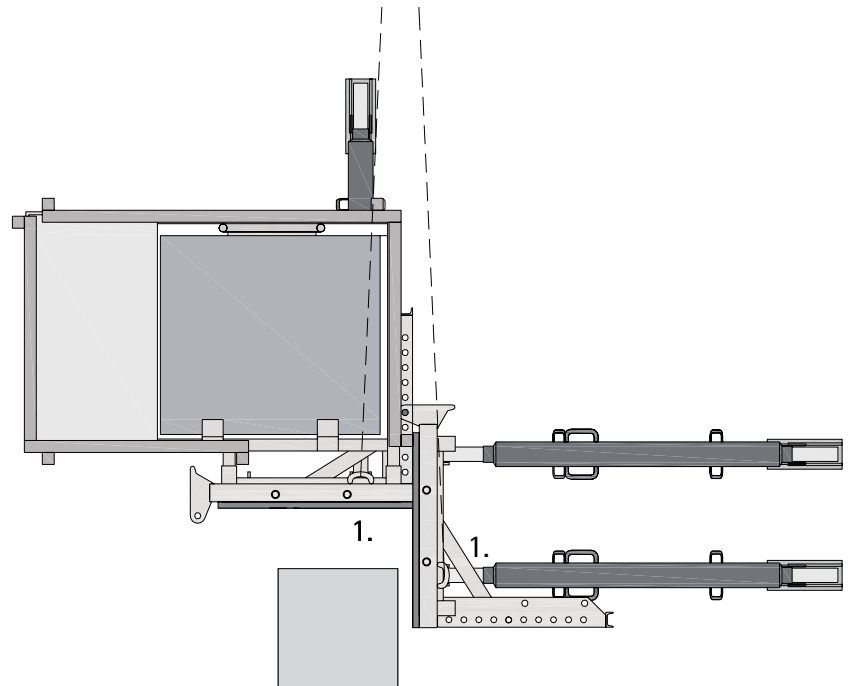

Fig. 22
1. Attach double-stranded crane sling to the crane eyes (Fig. 22).